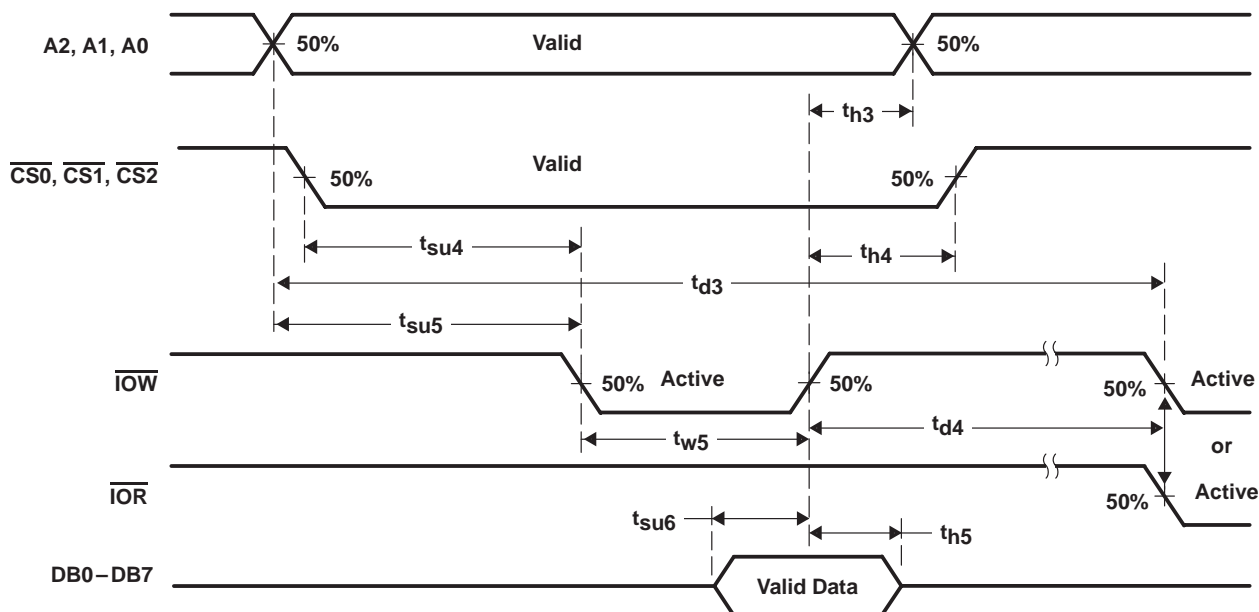

Figure 5. Write Cycle Timing Waveforms
**write cycle timing requirements over recommended ranges of operating free-air temperature and supply voltage (see Note 7 and Figure 5)**